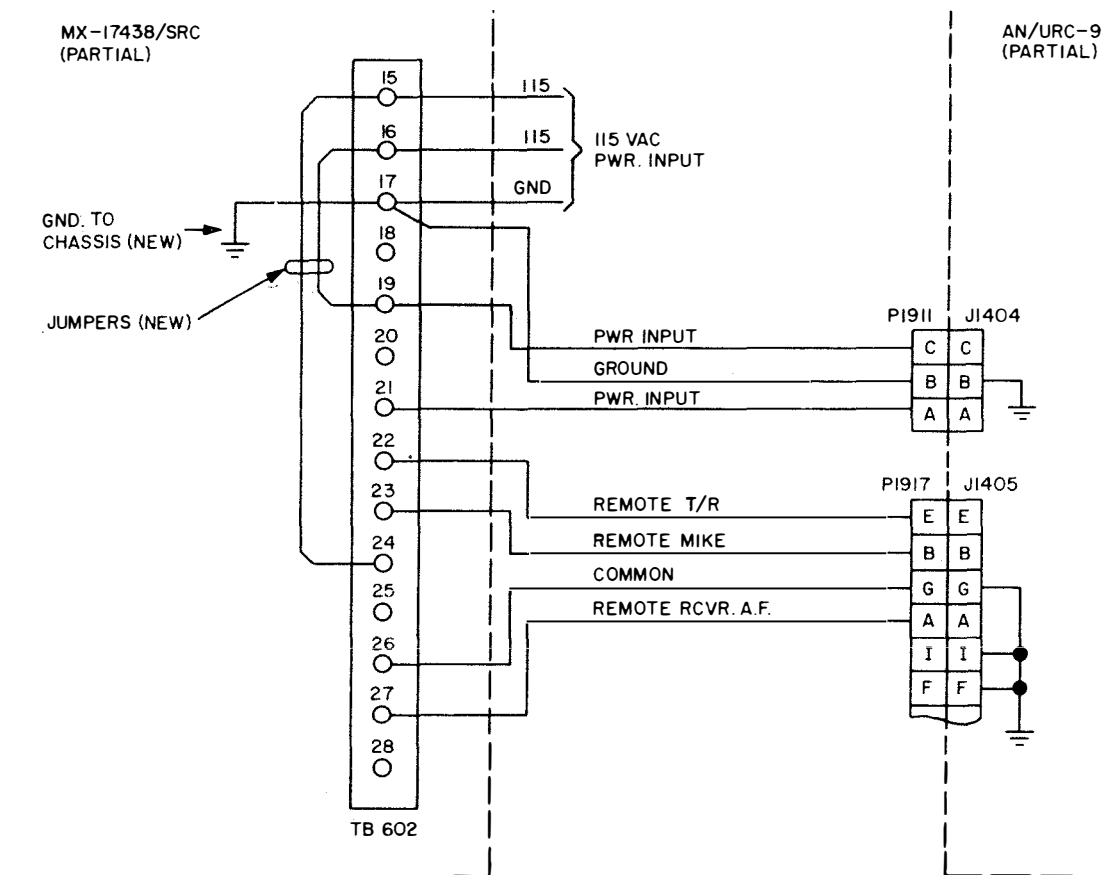

Figure 1. Connections Between MX-1743B/SRC and AN/URC-9
It has been noted by the Engineering Interface Management Office (EIMO), NAVSHIPS Code 06C, that different methods are being used to interconnect the MX-1743B/SRC and the AN/URC-9. The method shown in figure 1 provides the required connections and eliminates the need for modifying the internal wiring of the MX-1743B/SRC. (710)